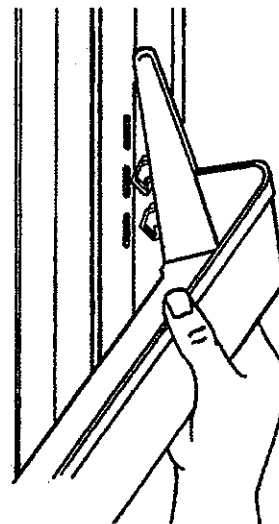

Figure 65
- Hold shelf against door and tap down gently on both ends until shelf is seated securely. See Figure 65.